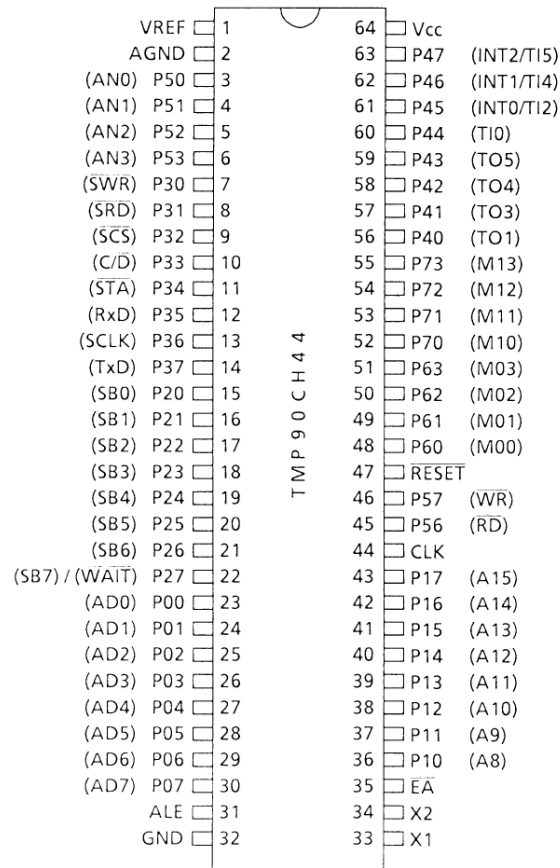

Figure 2.1 (1). Pin Assignment (Shrink DIP)
The TMP90PH44N pin assignment are shown in Figure 2.1 (1).